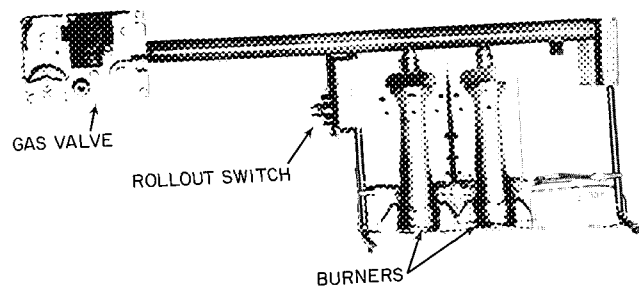

Fig. 21 - Burner Tray Details
10. Slide the burner tray out of the unit. (Fig. 21)